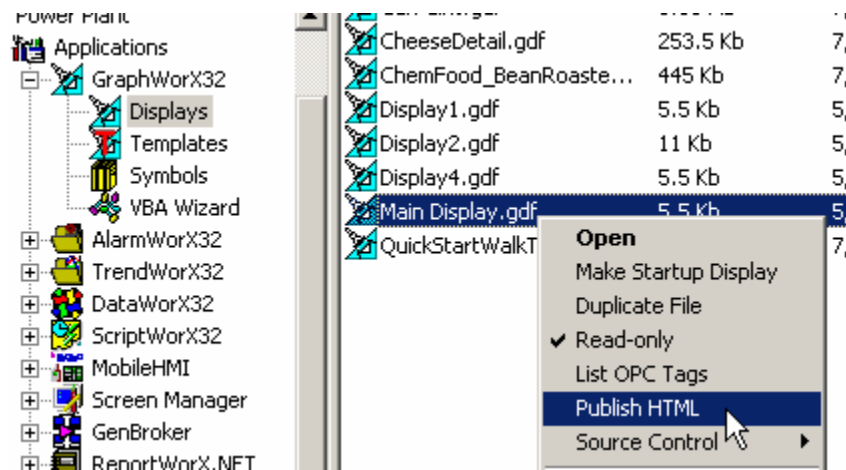

Figure 4.26. Publishing a GraphWorX Display File
- Right-click on a GraphWorX display and select **Publish HTML**, as shown in **Figure 4.26**. In this case, the **Based on Source** field in the Web Publishing Wizard dialog is read-only and contains the name of the selected GraphWorX display. The browse (...) button is also disabled.